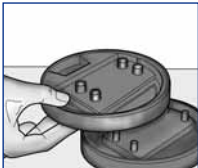

Fig. 16
- Refit the drip tray (5) slotting the four bottom holes onto the four pegs in the base (Fig. 16).